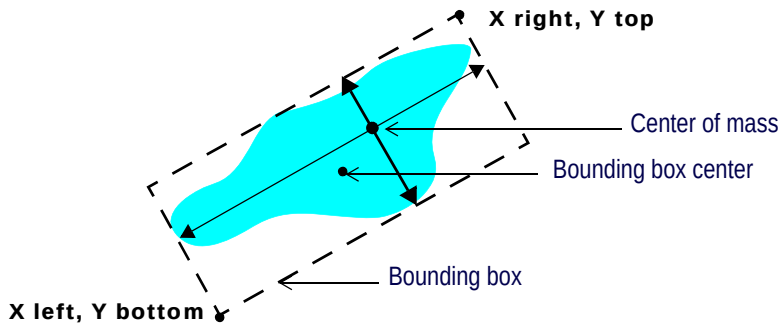

Figure 329 Bounding Box
- **Center X** and **Center Y** are the X and Y coordinates of bounding box center with respect to the principal axes. This does NOT correspond to the center of mass. See Figure 329.
The bounding box defines the smallest rectangle, aligned with the Tool coordinate system, that can enclose the blob, as shown in Figure 329.